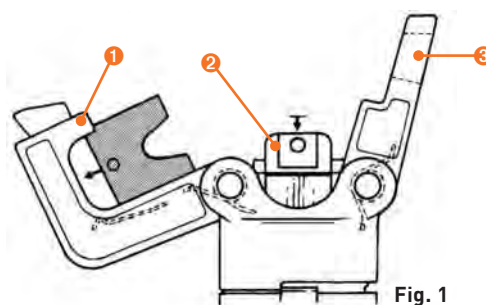

Fig. 1
With reference to **Figures 1 and 2**, select a pair of matrixes suitable to the type of contact and insert them in the housings: one in the matrix support ①, the other one in the matrix pusher support ②. (NB: the two matrixes of each pair are the same).